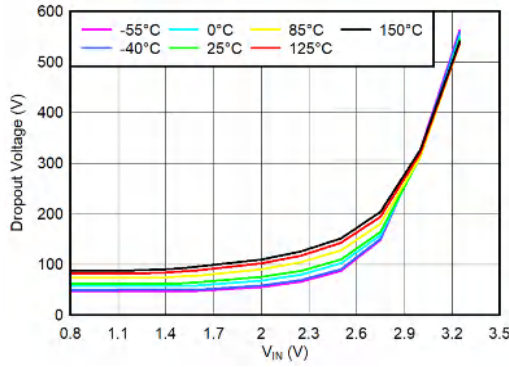

图 6-29. V_{IN} Dropout Voltage vs V_{IN} and Temperature (T_J) for $I_{OUT} = 1.5 \text{ A}$
- (1) Adjustable devices tested at 0.8 V; resistor tolerance is not taken into account.
(2) Dropout is defined as the voltage from V_{IN} to V_{OUT} when V_{OUT} is 3% below nominal.
(3) 3.25 V is a test condition of this device and can be adjusted by referring to Figure 6-29.